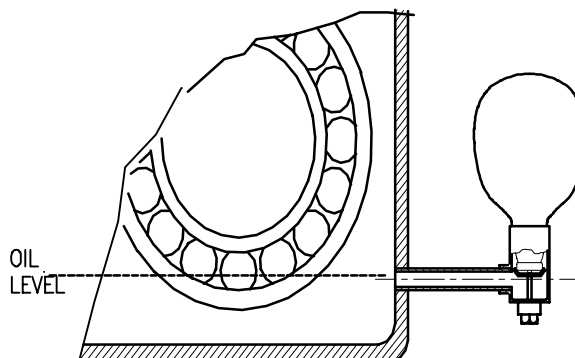

Fig. 4
2. Place thumb over reservoir spout, invert and place reservoir on lower casting while removing thumb. Allow reservoir to empty, filling the housing or bearing chamber (Fig. 4). Depending on the size and capacity of the bearing chamber several fillings of the reservoir may be required before the actual oil level is reached. **NEVER** use lower casting only as a fill spout, always fill thru reservoir.
If you are unsure of the adjusted oil level, remove the top half of the bearing housing and look at the oil level. The oil should cover the bottom half of the rolling element as shown in figure 4.